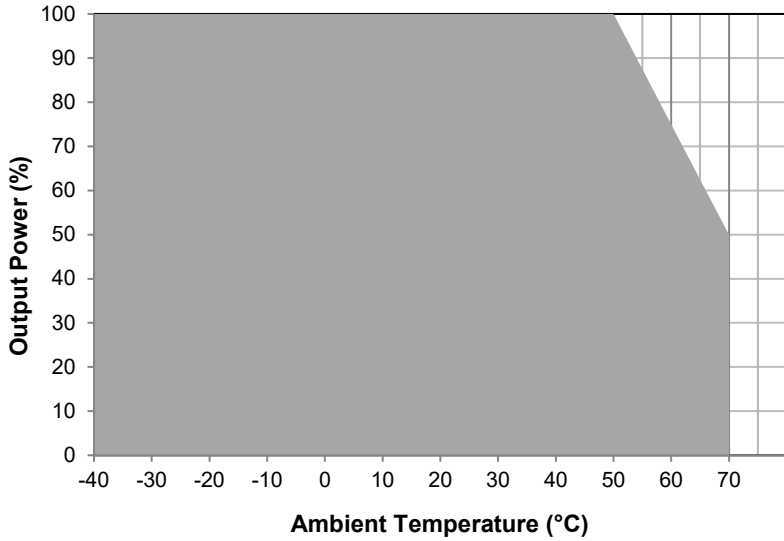

Fig. 1 De-rating for All Mounting Orientation
*³ For power de-rating, see power de-rating at Fig.1 on page 7.
1. Power supply components may degrade, or be damaged, when the power supply is continuously used outside the shaded region, refer to the graph shown in Fig. 1.
- If the device is continuously operating outside the shaded region shown in Fig. 1. The device may be damaged or degraded.